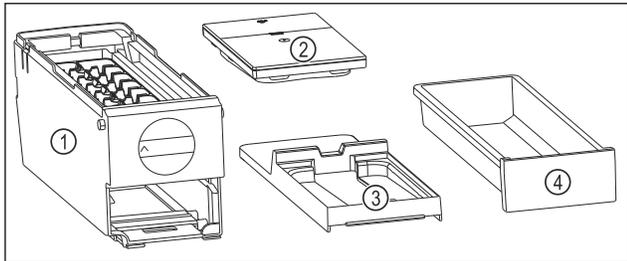

Fig. 156 Components of the EasyTwist-Ice
- ▷ EasyTwist-Ice is disassembled in four parts. (see *Fig. 156*)
- ▶ Only disassemble the EasyTwist-Ice into the illustrated components. (see *Fig. 156*)
- ▶ Clean the EasyTwist-Ice body *Fig. 156 (1)* as a complete unit.